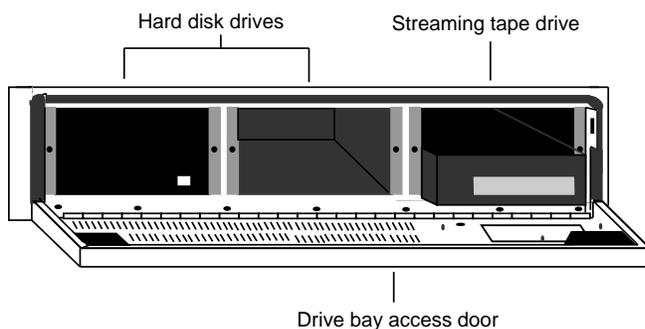

Figure 5-2. Front View with the Drive (Peripheral) Bay Door Opened
2. Use the indentations around the slide latches to swing the door open by allowing the door to fall gently downward toward you. See Figure 5-2.